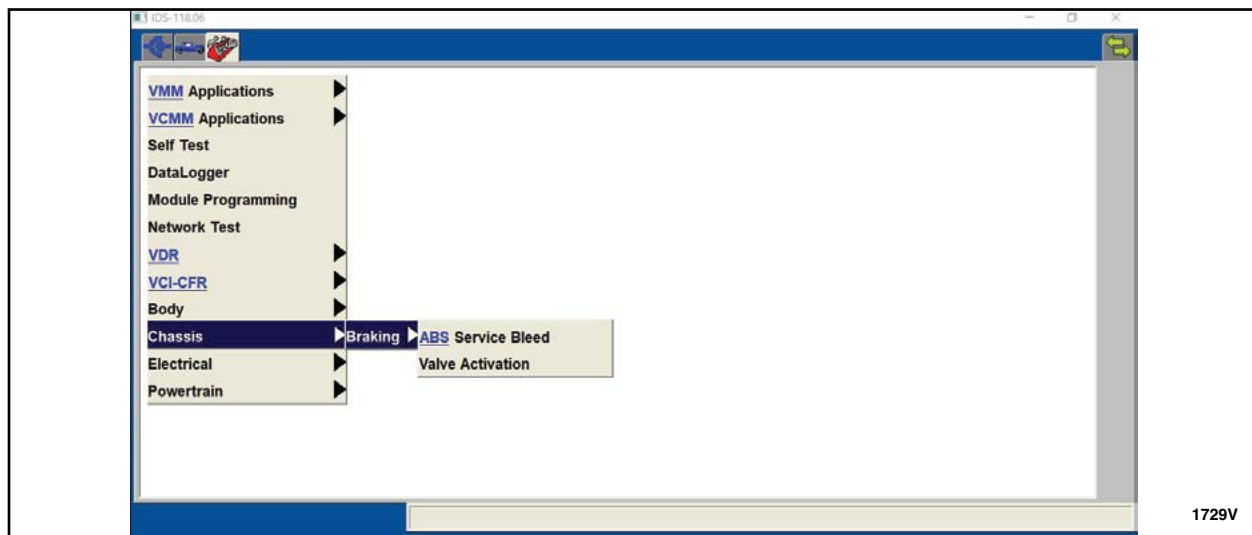

FIGURE 25
9. Select the "Tool Box" tab then "Chassis", "Braking" then "ABS Service Bleed". See Figure 25.